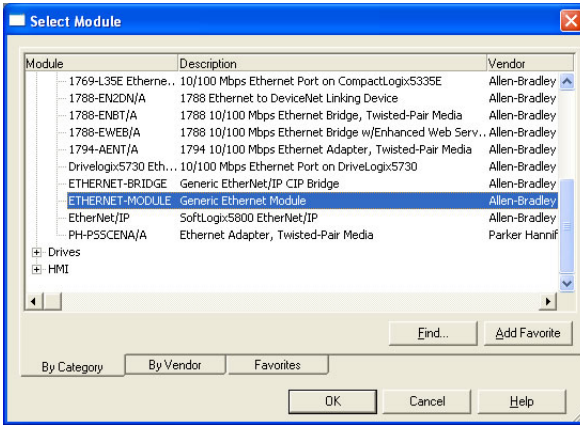

Figure 84: Adding a New Generic Ethernet Module
- 3) Choose “Generic Ethernet Module” in the Select Module dialog box and click “OK”. Refer to Figure 84.